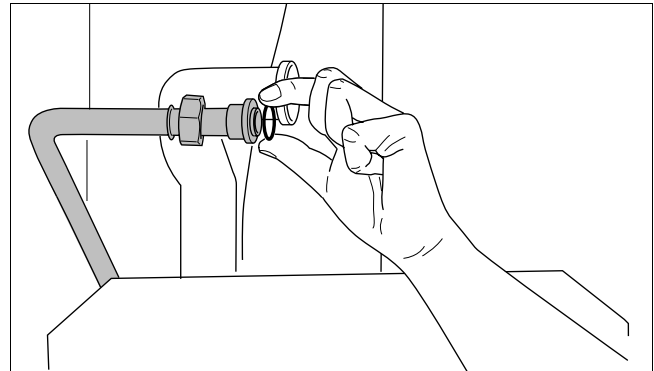

fig. 11 Installing a new seal on the gas pipe
- Remove the seal from the gas pipe and install a new seal (fig. 11).